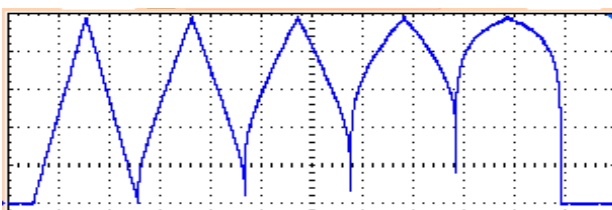

Figure 8c: Curves 9-13
- Next 4 curves are symmetrical, ranging from linear to logarithmic in 4 interpolated steps. *Figure 8c*